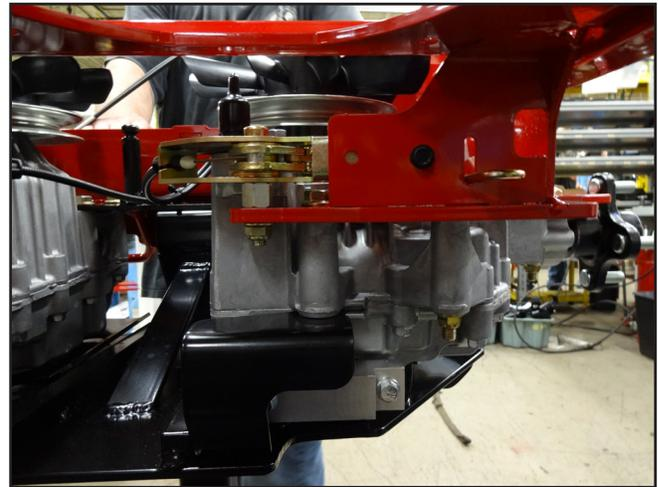

Figure 6
11. Align brake caliper with hole in the frame and secure with flange nut (Figure 6). Torque to 125 +/- 20 in. lbs